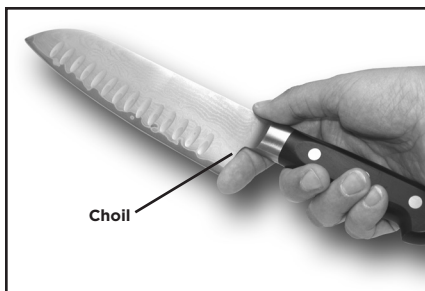

Figure 8. If your blade has a significant choil it may be helpful to place a finger behind it as shown when sharpening.
7. If your knife has a significant choil you may find it helpful to place your index finger within or just behind the choil (see Figures 8 and 9) as you insert the blade in the sharpener (Be careful! The tip of the choil may be sharp). Your finger can act as a "stop" and prevent you from inserting the blade so far that the choil area will catch on the front stop-bar of the sharpener as you withdraw the blade. A little practice will help you perfect this technique. As you insert the blade let your finger slide down the front of the sharpener.